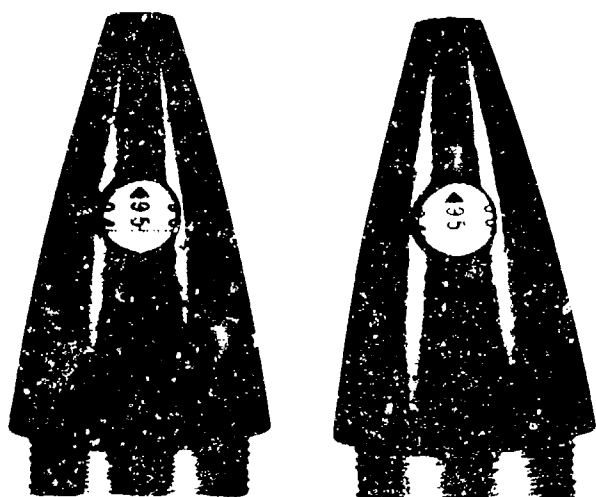

Figure 11-26. Fuze M577/M582
a. *General.* The M577 and M582 mechanical time-superquick fuzes (fig 11-26) have 200-second time mechanisms, which are used in setting the fuzes to the closest 1/10 second. These newer fuzes will eventually replace the M564 and M565 mechanical time fuzes. The newer fuzes do not have vernier scales. Instead, each has three movable digital dials (similar in design and functioning to an odometer in a car) that can be viewed through a window on the body of the fuze. The dial closest to the nose of the fuze indicates hundreds of seconds. A nontime setting is indicated when the black triangle mark (▲) on this dial is under the hairline in the window. The next dial indicates tens of seconds, and the third dial indicates seconds. In addition, the third dial has a scale that indicates tenths of seconds. The desired setting is placed under the hairline in the window. The timing mechanism starts to operate upon simultaneous exposure to projectile spin and setback. When set for time function, the fuze starts its arming cycle approximately 3 seconds prior to the set time. Each fuze also has an impact superquick setting (e(1) below).